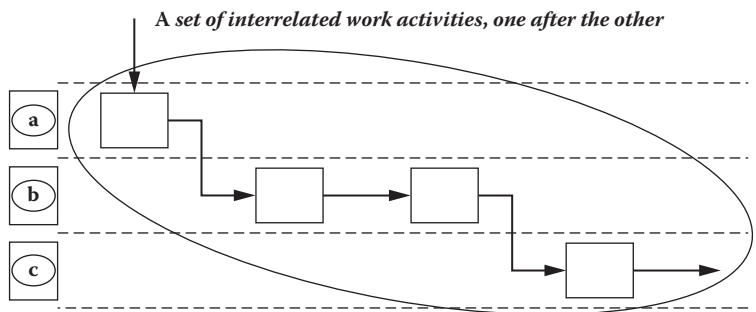

Figure 5.14 Workflow with a “serial” pattern.
10. This is a *serial* workflow pattern. It occurs regularly in knowledge work (Figure 5.14).